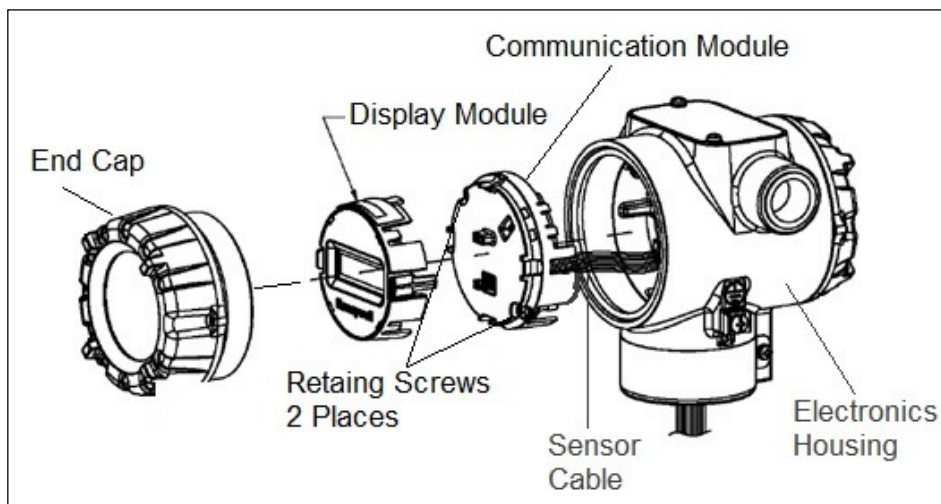

Figure 22 – PWA Replacement
Refer to Figure 22 for parts locations.
16. Install external upgrade label (i.e. DEVICE MODIFIED.....) provided on outside of housing as shown in Figure 22.